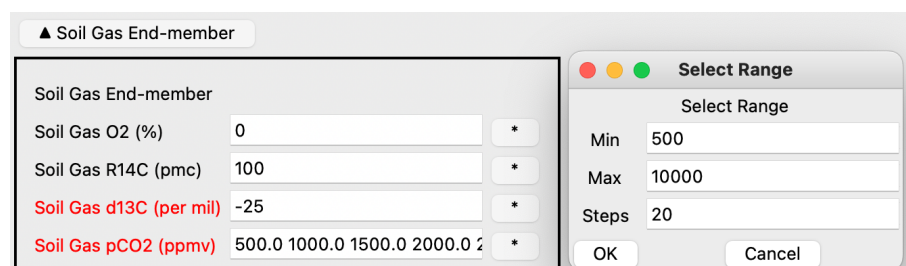

Figure 2: Example of varying an input in steps. This functionality facilitates the generation of multiple models.
- Click the asterisk (*) next to certain inputs to generate linearly spaced arrays of input values. This allows you to run multiple models simultaneously (see Figure 2).